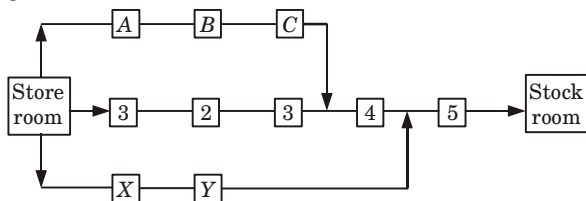

Fig. 1.18.1.
3. The machines, under plan are thus located in U or line shape as shown in Fig. 1.18.1.